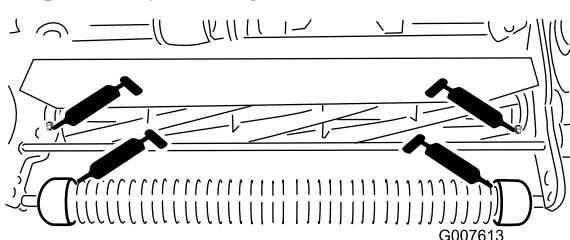

Figure 21
- 2 on the front roller (Figure 21)
- 2 on the reel bearings (Figure 21)